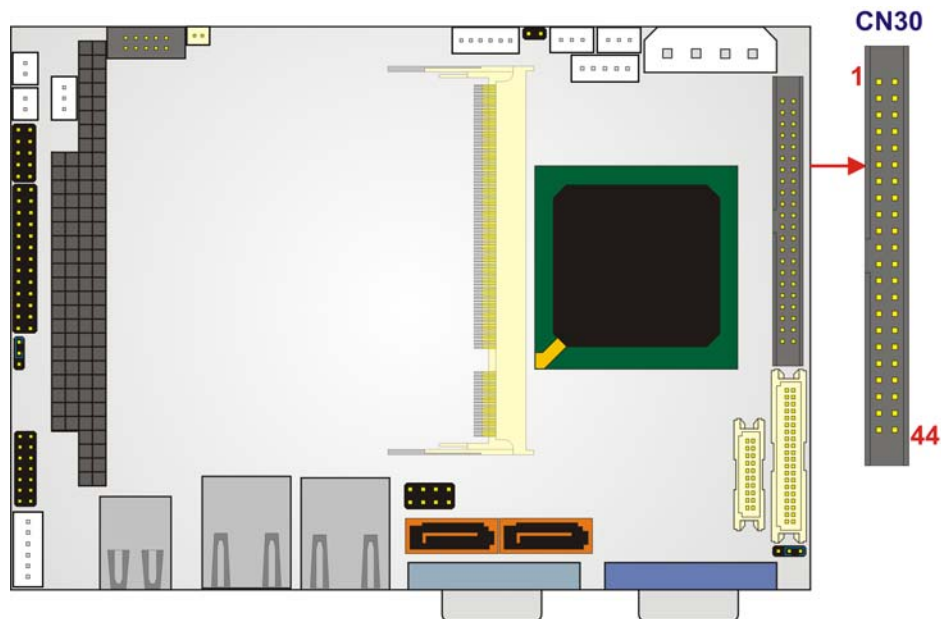

Figure 3-12: IDE Device Connector Locations
- CN Location:** See **Figure 3-12**